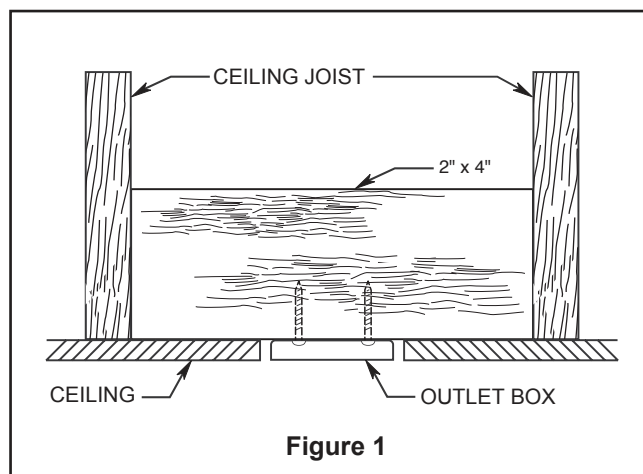
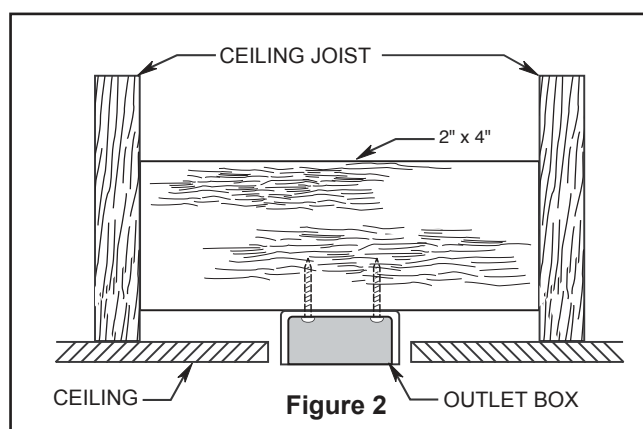
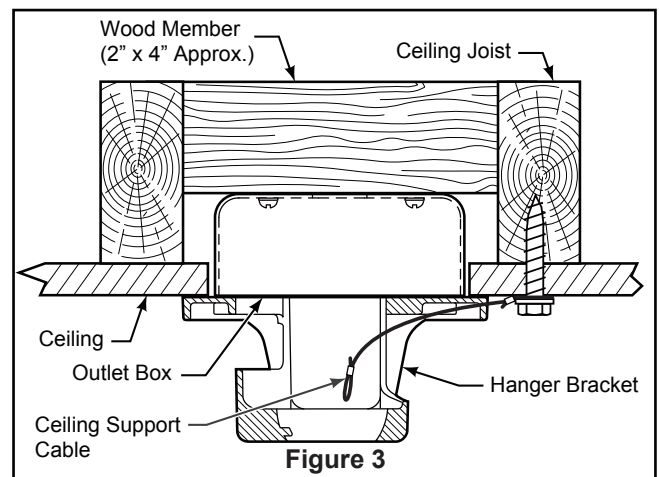

Figure 1
Figure 2
Figure 3
Your new ceiling fan will require a grounded electrical supply line of 120 volts AC, 60 HZ, 15 Amp Circuit. Electrical code requires use of a fan-rated outlet box to support the extra weight and motion associated with a ceiling fan. A fan-rated box will be labeled as such and typically supports up to a 70lb ceiling fan. Fan-Rated Outlet Boxes vary in ratings and design. Ensure the ratings of your ceiling fan outlet box meet the requirements for the ceiling fan being installed. Figure 1, Figure 2 and Figure 3 depicts different structural configurations that may be used for mounting the outlet box.
Low profile box (Figure 1)
Deep box (Figure 2)
Deep box with brace (Figure 3)
3. Loosen the two set screws and locking nuts in the downrod support of the motor assembly. Route the brown, blue, red, gray, yellow wires and safety cable through the downrod. (Figure 3)
1. Securely attach the hanger bracket to the outlet box using the outlet box screws and washers supplied with the outlet box. (Figure 3)
2. Drill a 1/4" pilot hole into the building structure to prevent splitting or cracking with installation of the lag bolt. Using the 3/8" x 2" lag bolt and flat washer, attach safety cable to ceiling joist or wood structural member. The lag bolt will pass through the flat washer, safety cable loop, and into the building structure. (Figure 3)
NOTE: Ceiling support cable cannot be secured to outlet box only, it must be directly secured to ceiling joist or structural member using the 3/8" x 2" lag bolt and flat washer. (Figure 3)
- 2. Slide the receiver into the hanger bracket before wiring as shown in figure 3.
3. Assemble the light plate assembly to the support bracket using the two key slots in the light plate assembly. Replace the previously removed screw and securely tighten all three screws. (Figure 3)
3. Remove the battery cover from remote control by screwdriver and retain the screw for later. (Figure 3)